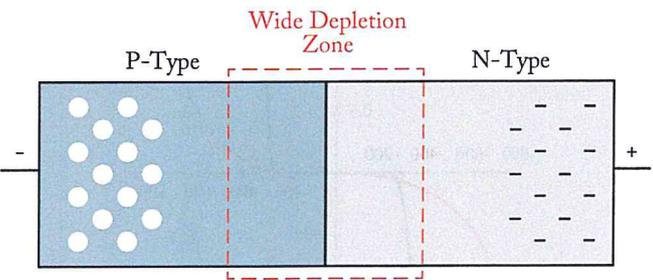

Figure 1-37. Reverse-biased PM junction.
On the other hand, if reverse-bias voltage is applied to the PN junction, the size of its depletion region increases as the charged particles on both sides move away from the junction. This condition, shown in *Figure 1-37*, produces a high resistance between the terminals and allows little current flow (only in the microampere range). This is the operating condition for the varactor diode, which is nothing more than a special PN junction. As *Figure 1-37* shows, the insulation gap formed by reverse biasing of the varactor is comparable to the layer of dielectric material between the plates of a common capacitor. Furthermore, the formula used to calculate capacitance (C) can be applied to both the varactor and the capacitor: